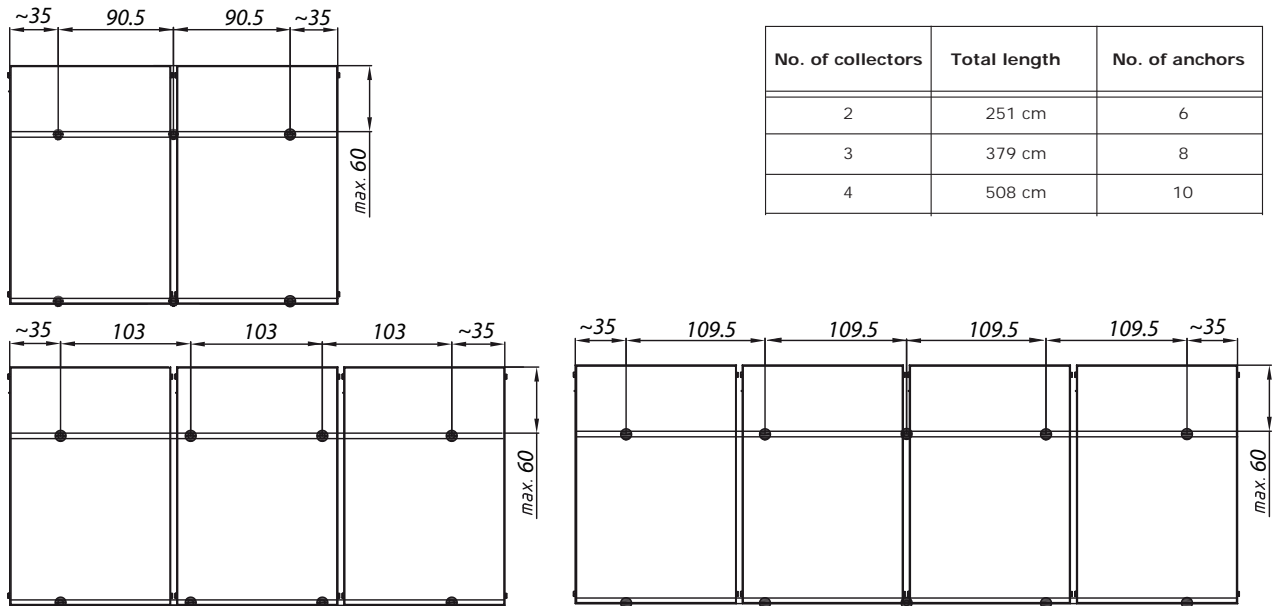
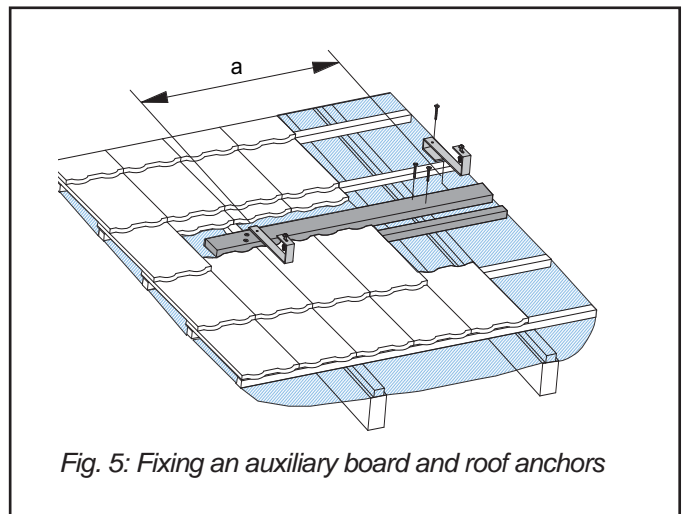

Fig. 2: Layout of roof anchors
Fig. 5: Fixing an auxiliary board and roof anchors
- Fix the auxiliary boards to battens so that the distribution of anchors resembles the positions in Fig. 2. At the same time screw the boards so high that the roof anchor does not hinder placing the roof tile with the
- Hang the roof anchors onto the auxiliary board respecting their distribution shown in Fig. 2.
- Remove roofing in places where anchors shall be fixed (Fig. 5). The distance “a” between anchors is defined in Fig. 2.
- Depending on the number of collectors, measure and calculate the positions for fixing roof anchors (Fig. 2). Such places shall be selected for mounting where anchors can be fixed sufficiently into the roof frame (rafter or similar).